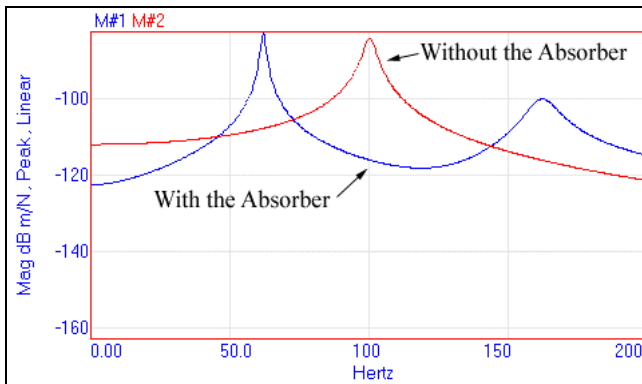

Figure 7. Driving Point FRFs Overlaid.
- Execute the **Format | Overlay Traces** command. The two FRFs should be displayed as shown in Figure 7.